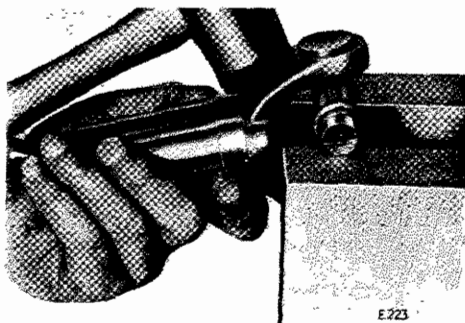

Fig. 51.
Support the two exposed trunnions of the spider (37) on wooden blocks (Fig. 51) and, by striking the radiused portion of the forked end of the shaft, drive out the needle bearing cup until it is sufficiently exposed to be removed. Repeat the operations to remove the remaining cup. Remove the spider from the forked end of the shaft.
Pass two trunnions of the spider through the bearing bores in the forked end of the shaft (35); With the exposed trunnions supported as shown in Fig. 51, fit the grease seals and needle bearing assembly into the uppermost bearing bore; fit the circlip (38). Reverse the shaft and fit the opposite grease seal, needle bearing assembly and circlip.